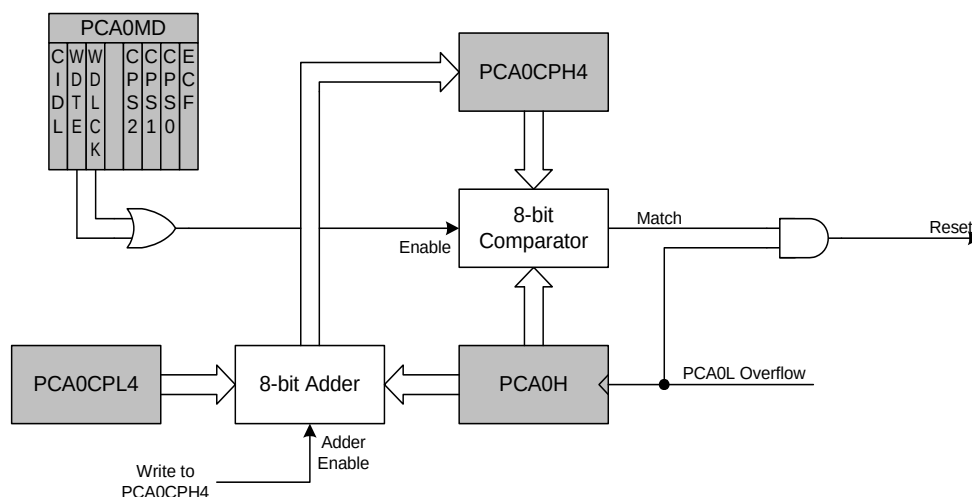

**Figure 22.10. PCA Module 4 with Watchdog Timer Enabled**
While the WDT is enabled, writes to the CR bit will not change the PCA counter state; the counter will run until the WDT is disabled. The PCA counter run control (CR) will read zero if the WDT is enabled but user software has not enabled the PCA counter. If a match occurs between PCA0CPH4 and PCA0H while the WDT is enabled, a reset will be generated. To prevent a WDT reset, the WDT may be updated with a write of any value to PCA0CPH4. Upon a PCA0CPH4 write, PCA0H plus the offset held in PCA0CPL4 is loaded into PCA0CPH4 (See Figure 22.10).